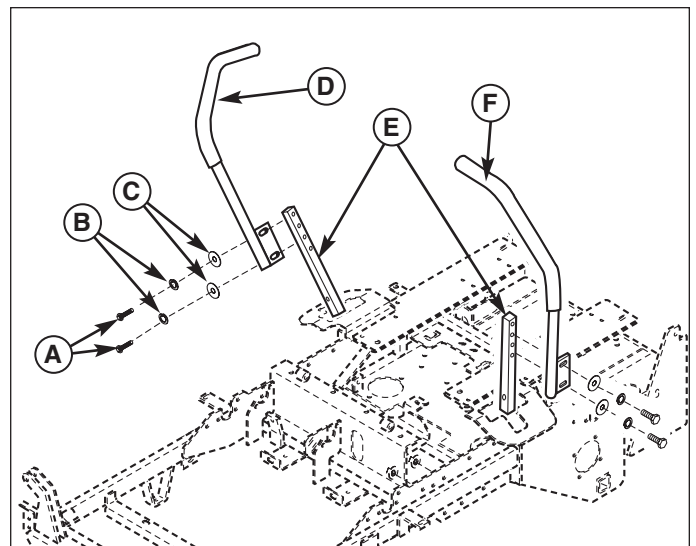

Figure 4. Install Control Levers
1. Mount the left upper control arm (F, Figure 4) and right upper control arm (D) to the lower control arms (E) using four 5/16-18 x 1 capscrews, lockwashers, and washers.